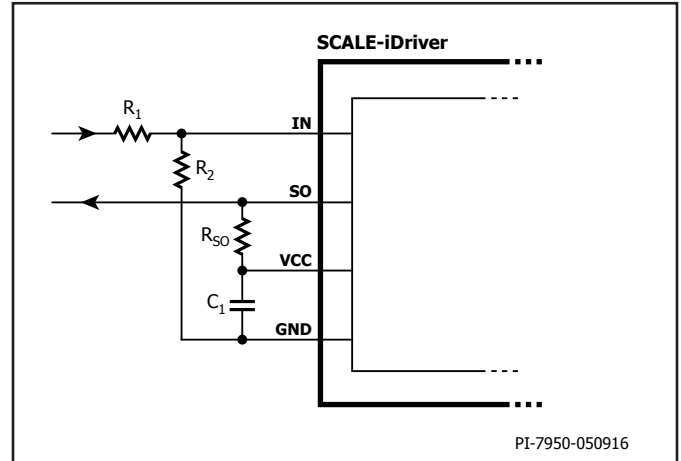

Figure 5. Increased Threshold Voltages V_{IN+LT} and V_{IN+HT} For $R_1 = 3.3 \text{ k}\Omega$ and $R_2 = 1 \text{ k}\Omega$ the IN Logic Level is 15 V.
The input (IN) and output (SO) logic is designed to work directly with micro-controllers using 5 V CMOS logic. If the physical distance between the controller and the SCALE-iDriver is large or if a different logic level is required, the resistive divider in Figure 5 is recommended. This solution adjusts the logic level as necessary and will also improve the driver's noise immunity.